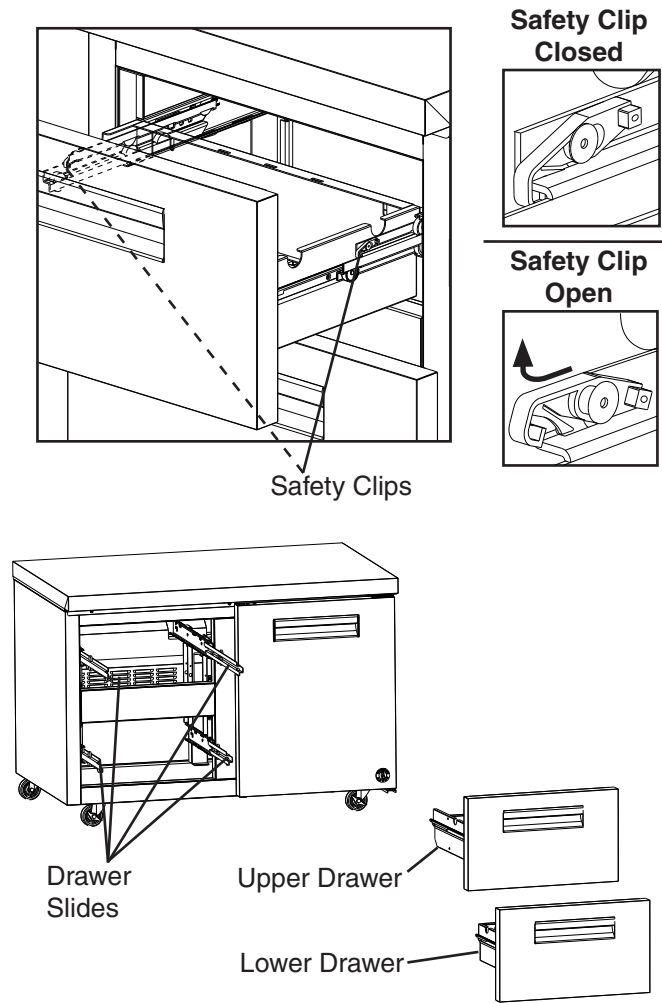

Fig. 20
- 2) Remove the drawers. Pull the drawer out to its fully extended position. Open the safety clips (one on each side) by sliding them forward, then rotating them up. See Fig. 20. Lift up on the handle slightly, then pull to disengage the drawer. Be sure to support the rear and front of the drawer while removing it. **WARNING! Be sure to close the safety clips when reinstalling the drawer.**